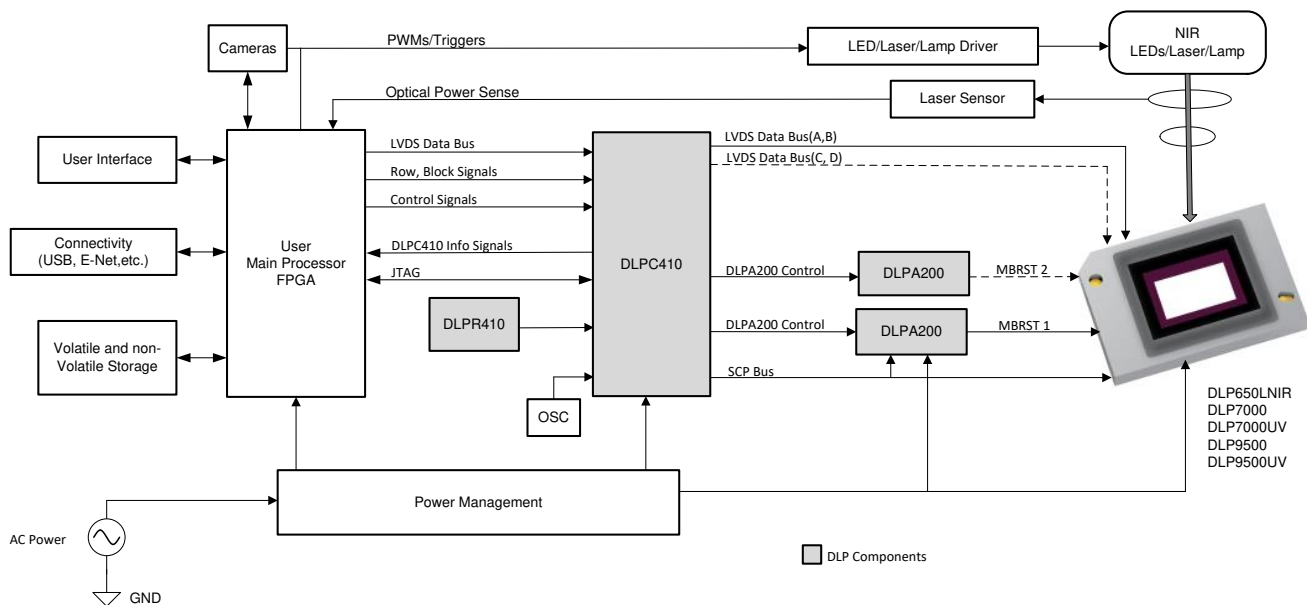

Figure 21. DLPC410 Application Example Block Diagram
A typical embedded system application using the DLPC410 controller is shown in Figure 21. The DLPC410, the DMD, and their associated DLP components do not specifically determine the application in which the components are used - customer applications and use cases may vary widely, from Digital Image Lithography to 3D Printing to 3D Scanners using Structured Light. The DMD is capable of being used with multiple illumination source types, from Lasers and LEDs to wide band wavelength mercury halide lamps. The DLPC410 supported DMDs cover applications utilizing ultraviolet (UV), visible, and/or near-infrared (NIR) wavelengths. The duration of each binary pattern displayed on the DMD is totally under control of the Applications Processor. The displayed patterns could be strictly binary patterns or could be bit weight exposures of varying durations representing
In **Figure 21**, the MBRST 2 signals and the C, D LVDS Data buses are shown with dashed lines to indicate that some DMDs do not require these signals to be used. TI's Reference Design and Evaluation Modules leverage a DLPC410 Controller Board which supports all 5 of the DLPC410 supported DMDs. The performance differences for each application are determined by which DMD Board is plugged into the Controller Board. This provides a single DLPC410 design platform which can then be used for multiple customer SKUs within an application platform for product segmentation purposes.